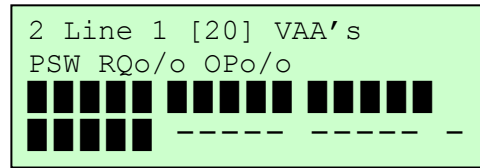

Figure 31
1. Figure 31 shows the Line Status page before the pre-start alarm is initiated.